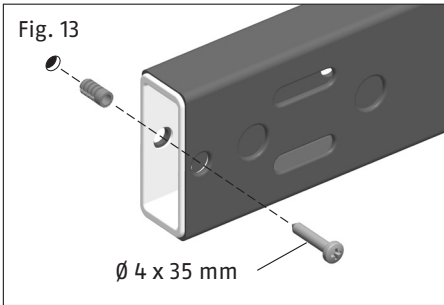

Fig. 13
**Note:** With cavity doors, pre-drill  $\varnothing$  6mm, use supplied bridging cartridge and tighten with  $\varnothing$  4 x 35 mm screws corresponding to Fig. 13. **Caution! Do not overwind.**